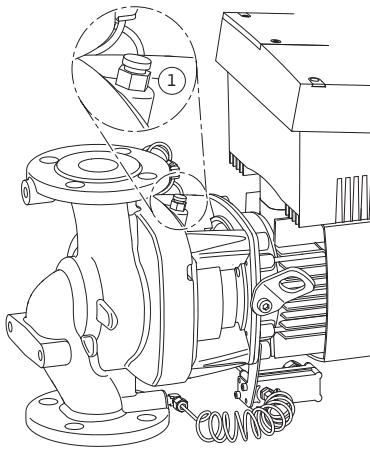

Fig. 44: Air vent valve
- Vent the pumps by undoing the air vent valves (Fig. 44, Item 1). Dry running will destroy the mechanical seal of the pump. The differential pressure sensor must not be vented (risk of destruction).